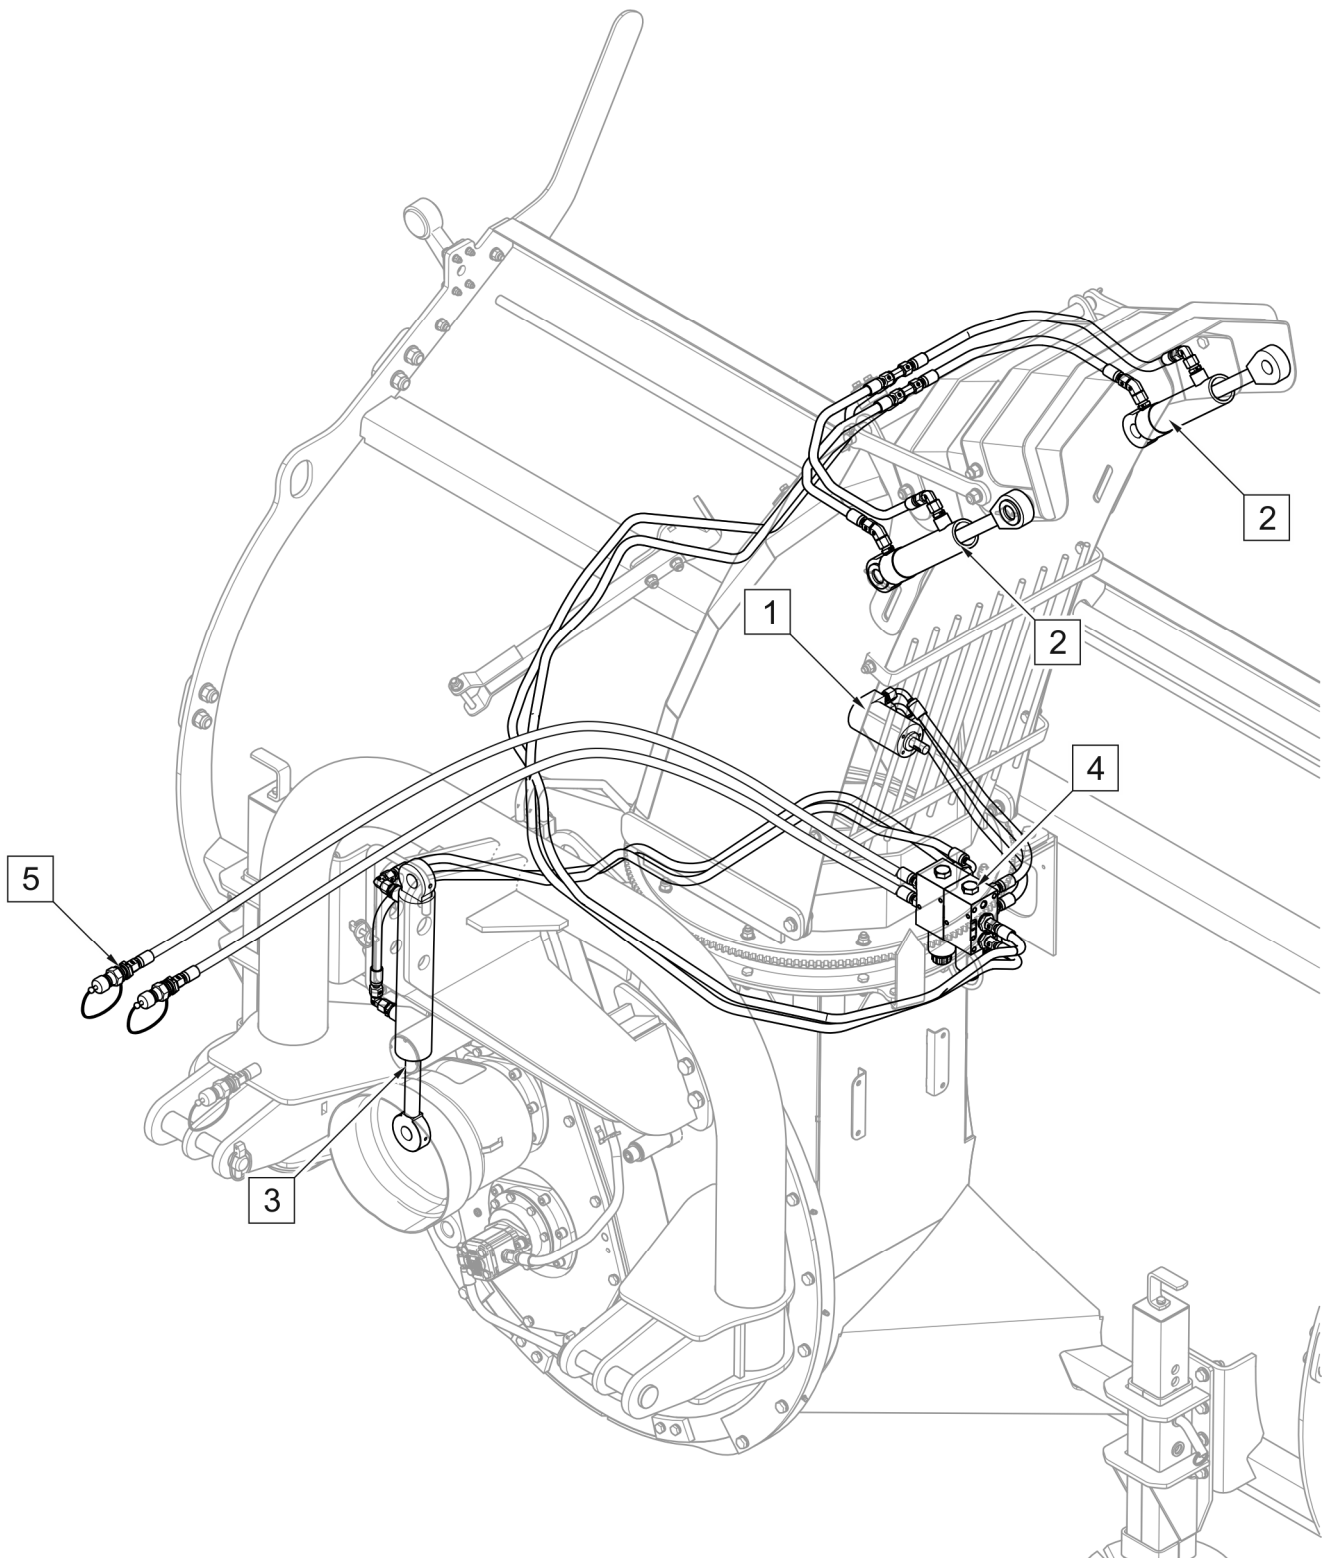

FIGURE 3.3 Hydraulic system design (machine mounted on three-point linkage)
(1) - hydraulic motor for discharge chute rotation; (2) - hydraulic cylinder for adjusting discharge range; (3) - snow blower tilt hydraulic cylinder; (4) - hydraulic solenoid valve; (5) - hydraulic quick couplers
In the snow blower mounted on the front three-point linkage, the hydraulic system (FIGURE 3.3) can alternately control hydraulic motor (1) for discharge chute rotation, hydraulic cylinders (2) for adjusting discharge range and snow blower tilt hydraulic cylinder (3).